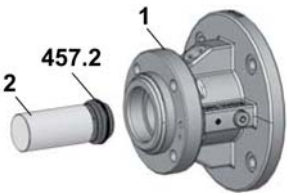

Fig 9
2. Use stationary seal ring mounting arbor **2** to press the stationary seal ring **457.2** with the mounted O-ring into the flange cover **1**. Take the position of the clearance for the dowel pin (anti-rotation) into account, see Fig.9.